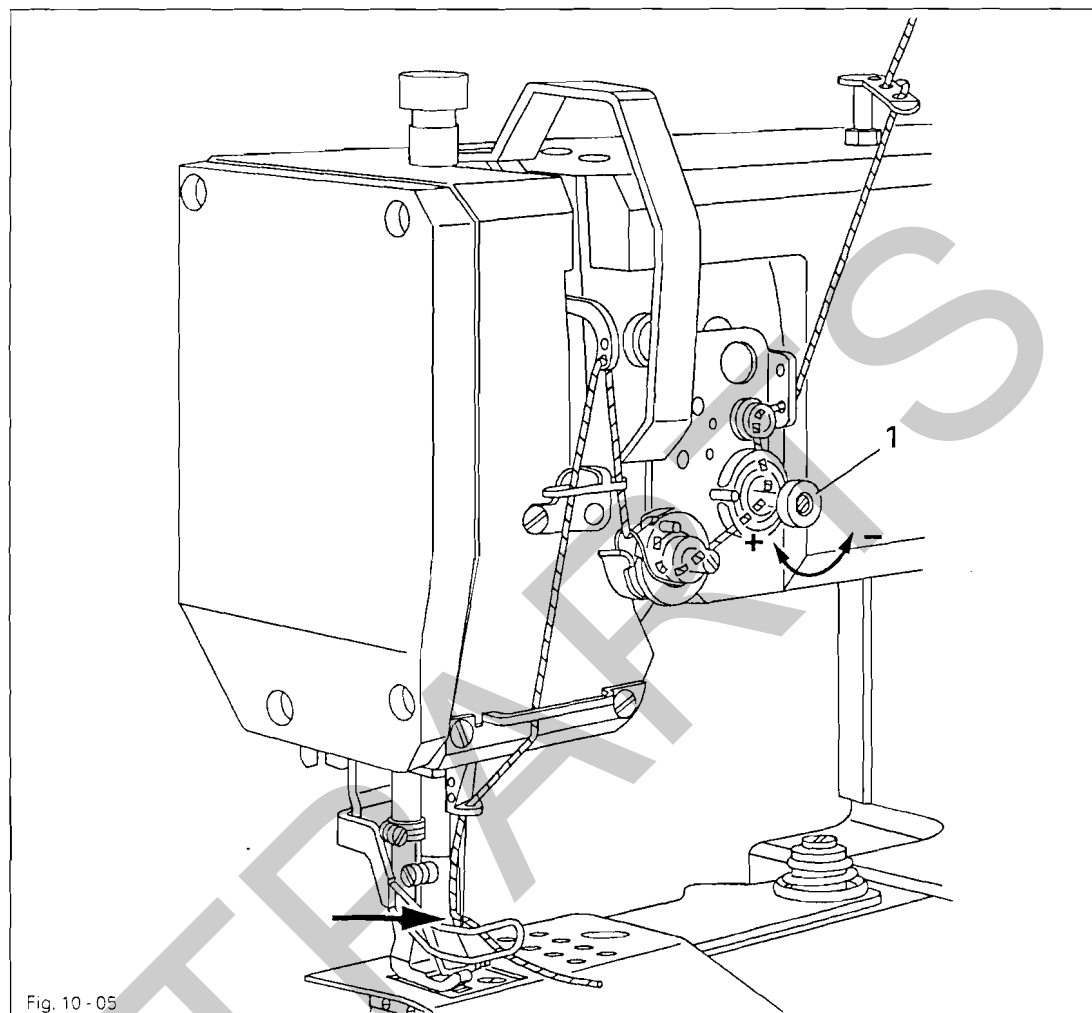

Fig. 10-05
- Thread the machine in accordance with Fig. 10-05, taking care to ensure that the needle is threaded from the left (see arrow).